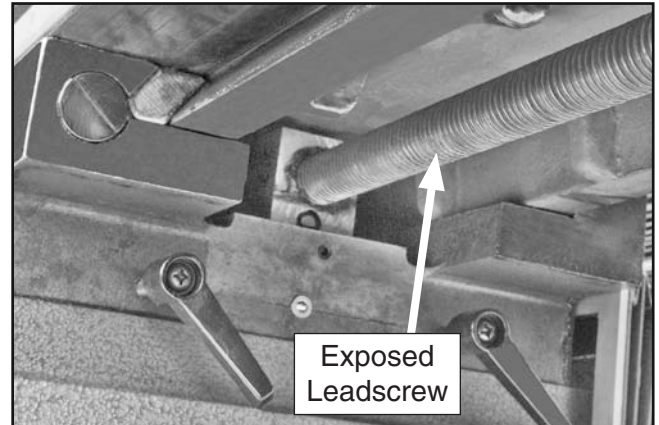

Figure 40. Table leadscrew.
8. Move the table to the far right and all the way forward to expose the leadscrew, as shown in **Figure 40**.